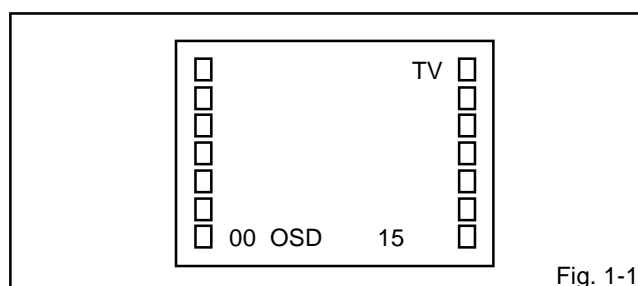

Fig. 1-1
2. Press the VOL. DOWN button on the set and the Channel button (9) on the remote control simultaneously to appear the adjustment mode on the screen as shown in Fig. 1-1.
7. Activate the adjustment mode display of Fig. 1-1 and press the channel button (03) on the remote control to select "VIF VCO".
3. Activate the adjustment mode display of **Fig. 1-1** and press the channel button **(02)** on the remote control to select "RF DELAY".
5. Activate the adjustment mode display of **Fig. 1-1** and press the channel button **(01)** on the remote control to select "CUT OFF".
4. Activate the adjustment mode display of **Fig. 1-1** and press the channel button **(10)** on the remote control to select "R CUT OFF".
3. Activate the adjustment mode display of **Fig. 1-1** and press the channel button **(05)** on the remote control to select "H PHASE".
3. Activate the adjustment mode display of **Fig. 1-1** and press the channel button **(07)** on the remote control to select "V SHIFT".
3. Activate the adjustment mode display of **Fig. 1-1** and press the channel button **(06)** on the remote control to select "V SIZE".
3. Activate the adjustment mode display of **Fig. 1-1** and press the channel button **(13)** on the remote control to select "BRIGHTNESS".